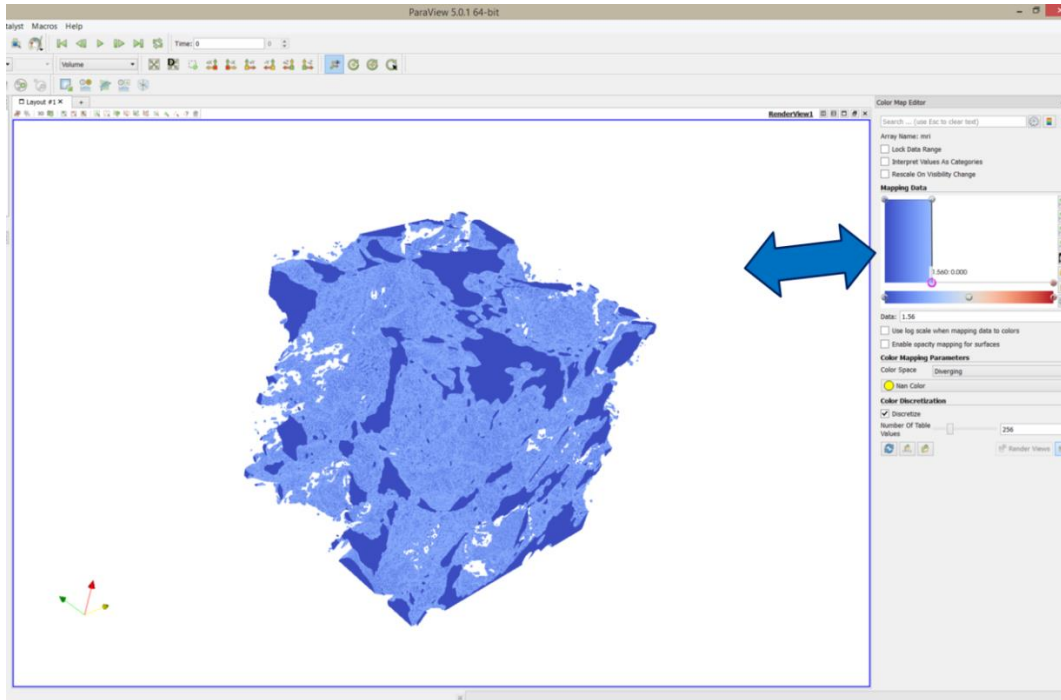

Figure 54: Pore volume in ParaView
- Figure 54: The pore phase is extracted by maximizing the blue phase and flattening the other phases.
- Figure 54: Different phases, in this case pore, hydrate and gas, can be extracted by altering the colour scale as shown in Figure 54, 55 and 56.